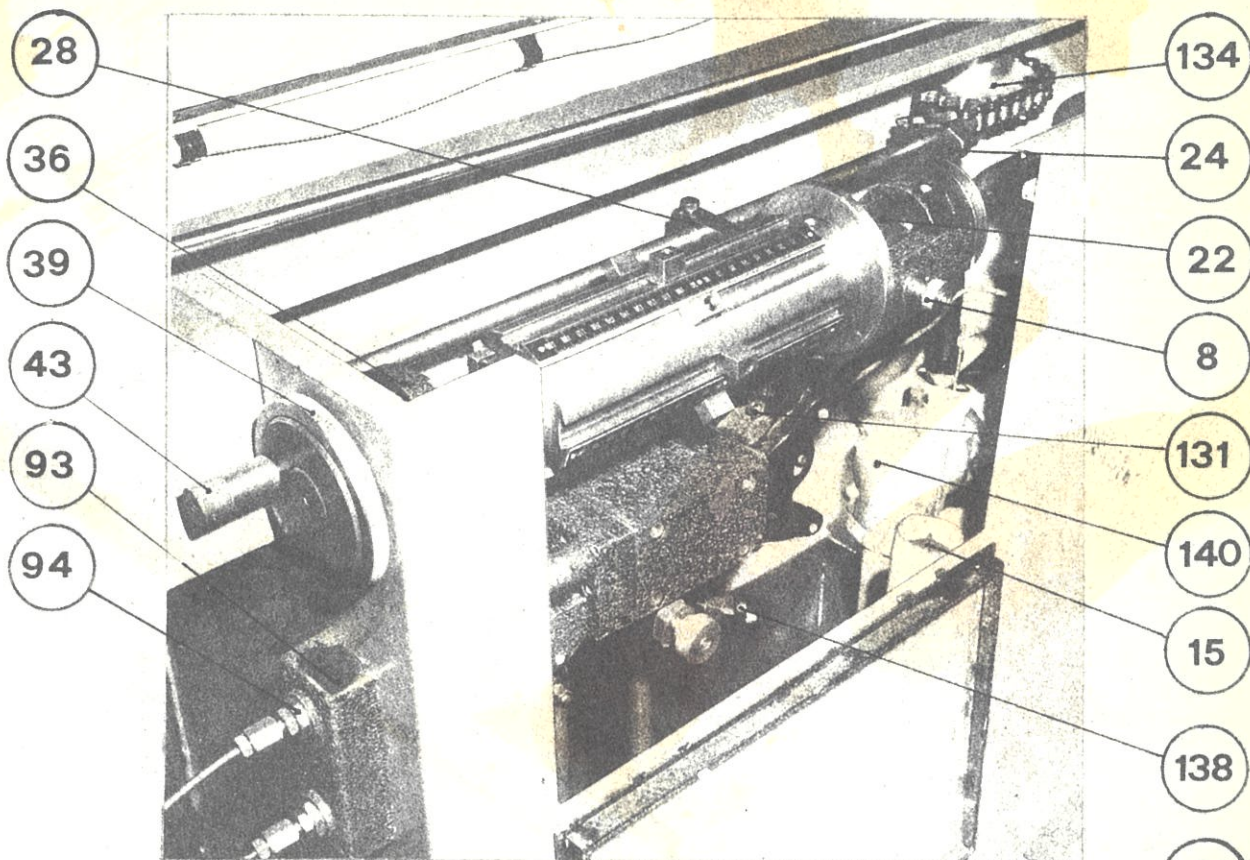

fig. 7
Pedal M (90) controls the valve (128, Fig. 7) which sets the hydraulic circuit for the working phase. The boss (28, Fig. 7) moves forward during this operation, the control lever (28) moves towards right, together with the rod (26), i.e. towards the block (32). The boss (28) contacts one of the corresponding blocks (32), and draws the programmer drum forward. As this advances through the disc (25) it operates the rocker arm (7) controlling the hydraulic control valve. The drum always moves sufficiently to bring wheel (22) to the right of the trip stud (9), so as to ensure operation of the hydraulic control valve by moving the rocker lever (7); the control valve reverses the stroke of the machine. The rotation angle of the die turning arm (96), which is the same as the bend angle, is governed by the relative position of each block (32) attached to the programmer (30). In the return phase, the boss (28) moves back together with the tie rod (26) and comes to rest against the disc (25), thus bringing the programmer drum back. During the movement, the stud (9) inserted between the teeth of the helical wheel (22), transmits a rotary movement to the programmer drum (30), and the next block (32, Fig. 10) is thus brought onto the path of the boss (28). At the same time, disc (25) operates the rocker arm (7) which returns the control valve (128) to the resting position, thus causing the die turning arm (96) to stop. The drum (30) rotates partially in each return phase, the blocks (32) line up with the boss (28), thus producing the sequence of bends according to the preset angles (Fig. 9). The number of bends in a sequence is programmed by the position of stud (40). For example: if the stud (40) is inserted in hole